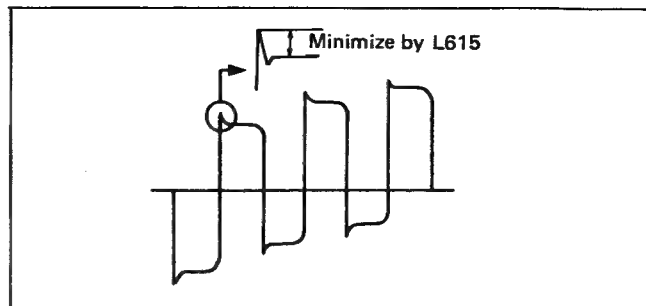

Fig. 35
- 4) Adjust L615 to achieve waveform shown in Fig. 35.